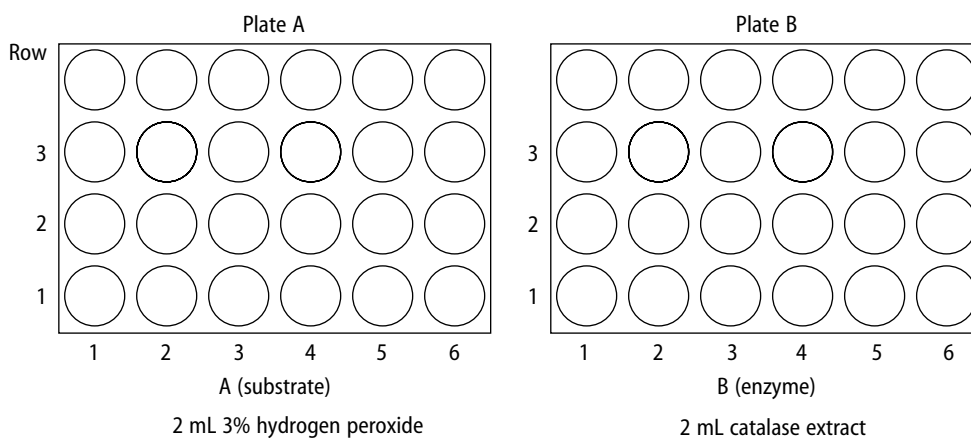

Figure 2: Arrangement of well plates
1. Place the two 24-well plates on top of a white sheet of paper, oriented as shown in Figure 2. Label one plate "A" and the other plate "B," and the rows as shown.